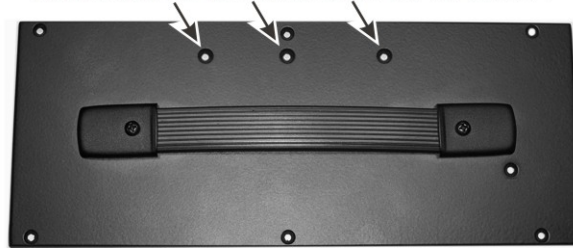
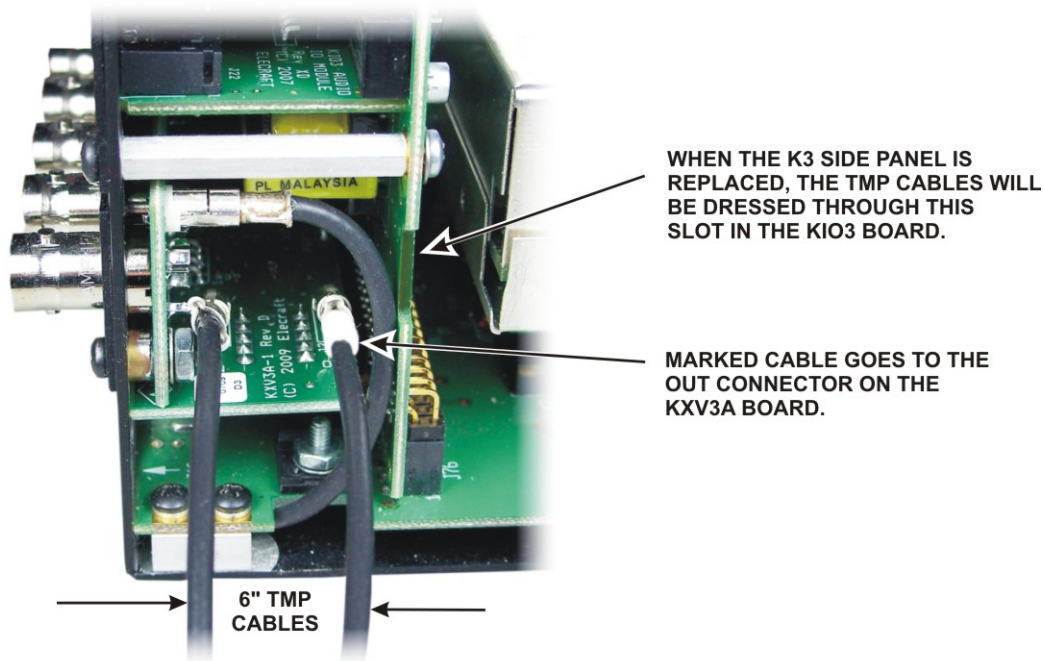

Figure 2. Left Side Panel with Holes for K144XV Module.
Figure 6. Attaching TMP cables to the KXV3A Interface Board.
Remove the K3's left side panel (the side with the handle). Check the panel to determine whether it has the three mounting holes for the K144XV module shown in Figure 2. The three mounting holes may have screws in them:
Locate the KXV3A board visible in the lower left corner of the K3 looking in from the open side (see Figure 6 on page 13) and verify the two coaxial TMP connectors are present. If not, your K3 has an older KXV3 board that must be replaced. Turn to your KXV3A manual and install the new board now. If your K3 is equipped with the KRX3 subreceiver the KXV3A manual will instruct you to remove it. If so, do not replace the KRX3 subreceiver module until instructed to do so later.
- Plug the cables into the two TMP connectors on the KXV3A board (see Figure 6). Note the connectors on the KXV3A are marked IN and OUT. Be sure the marked TMP cable is in the OUT connector on the KXV3A. The purpose of the marked cable is to positively identify the cable after the K3 side is replaced and you can no longer see the KXV3A board. Be sure the connectors are fully seated.
- Mount the left side panel on the K3. Be sure you use the side panel equipped with the holes for mounting the K144XV module (see Figure 2). Route the two TMP cables from the KXV3 through the slot in the KIO3 board (see Figure 6) so they are not pinched between the side panel and the KIO3 circuit board.